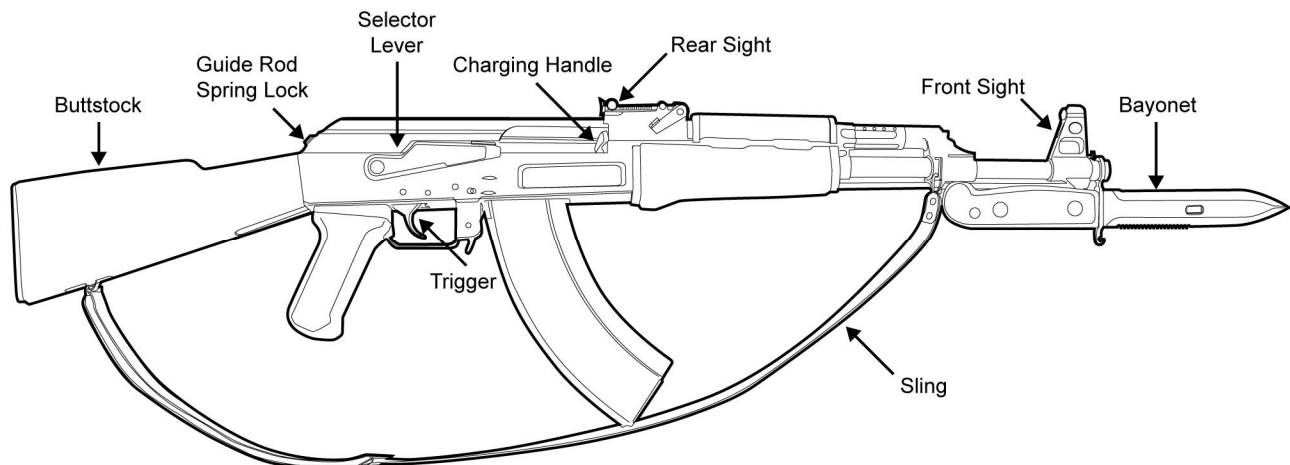

Figure 2. Right Side of the AK-74 Rifle.
5. **Right Side.** The right side view of the weapon displays the buttstock, guide rod spring lock, trigger, selector lever, charging handle, rear sight, front sight, sling, and bayonet. Refer to Figure 2.